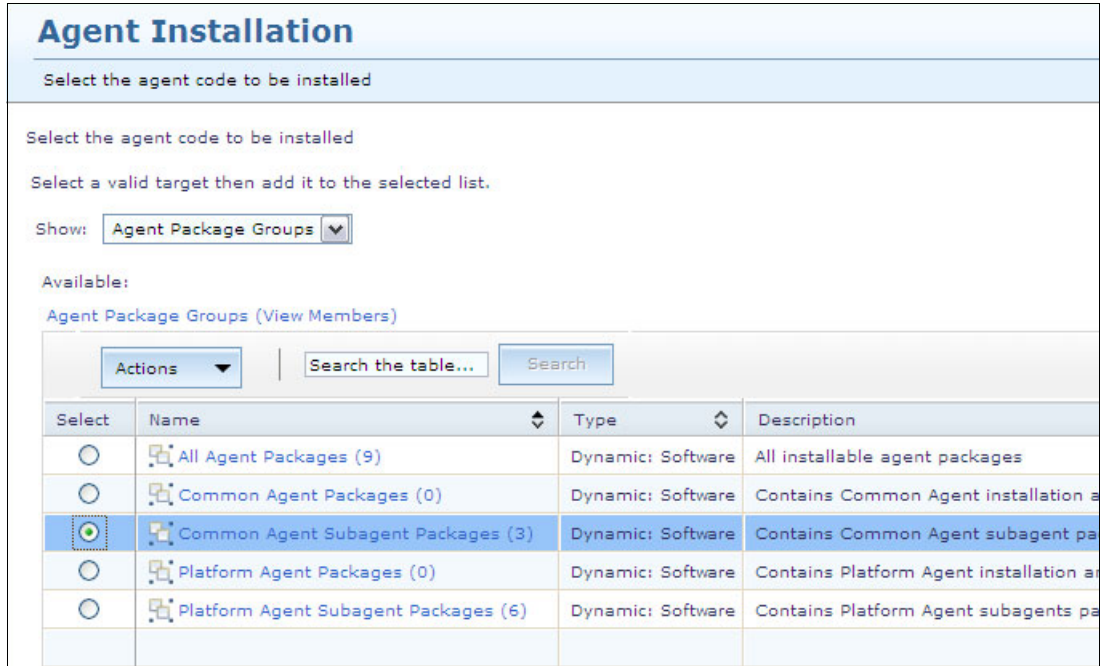

Figure 10-48 Agent Installation window
2. Select **Common Agent Subagent Packages**, as shown in Figure 10-48.